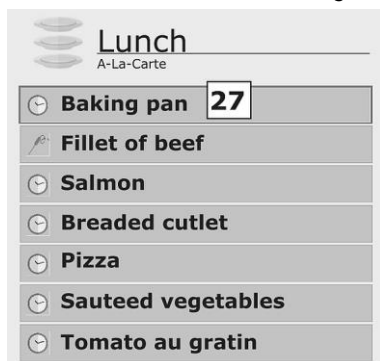

Fig. 34
1. Press the empty level and select sub-program dubbed 'Tray' (27, Fig. 34).